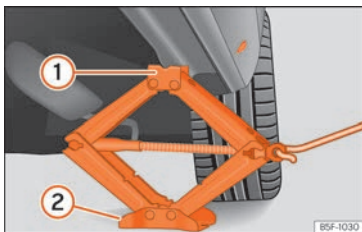

Fig. 41 Cross member: positioning the jack on the vehicle.
- Turn the jack* crank handle, located below the strut support point, to raise it until the tab **1** » **Fig. 41** is below the housing provided.